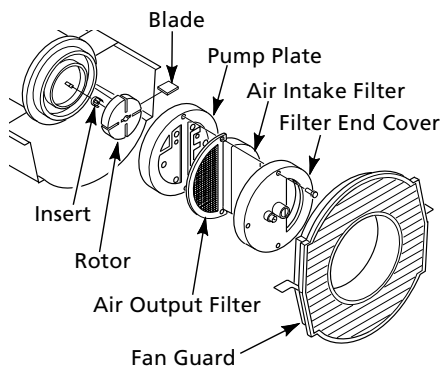

Figure 23 - Rotor Location, Models 2E510F and 2E511F
2. Remove filter end cover screws using 5/16" nut-driver (See Figures 23 and 24).